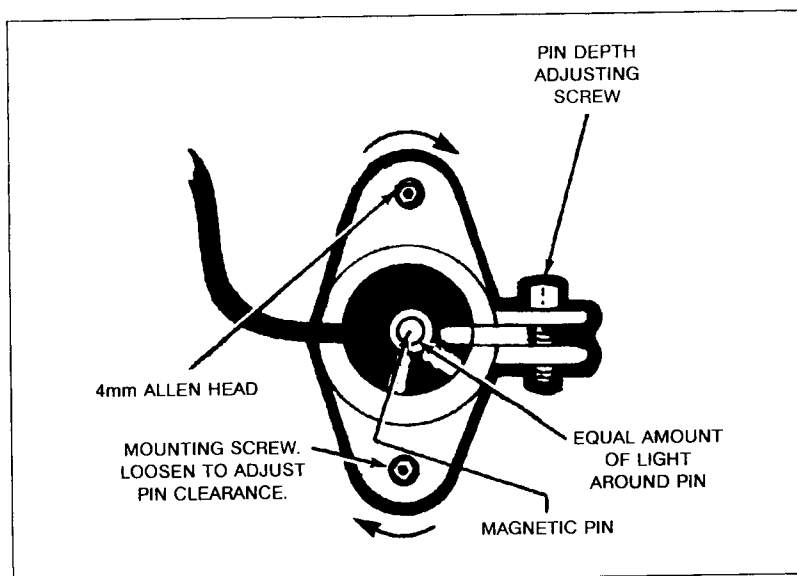

Figure 5-2. Velocity Transducer Adjustment
- a. Switch the printer offline and set the ON/OFF switch to the OFF (0) position.
- c. From the left end of the print mechanism, slightly loosen the two 3 mm mounting screws located on the transducer mounting clamp base (see Figure 5-2).
- e. To set the initial pin depth, slightly loosen the Pin Depth Adjustment screw that holds the transducer coil in the mounting clamp. Move the coil to the right (see Figure 5-2). Slide the tool over the magnet to the right until the magnet seats inside the tool. Hold the tool at this position and move the coil to the left until it contacts the tool's black plastic handle.
- c. From the left end of the print mechanism, slightly loosen the two 4 mm mounting screws located on the transducer, mounting clamp, base (see Figure 5-2).
- g. To set the initial pin depth, slightly loosen the 3 mm allen screw that holds the transducer coil in the mounting clamp (see Figure 5-2).